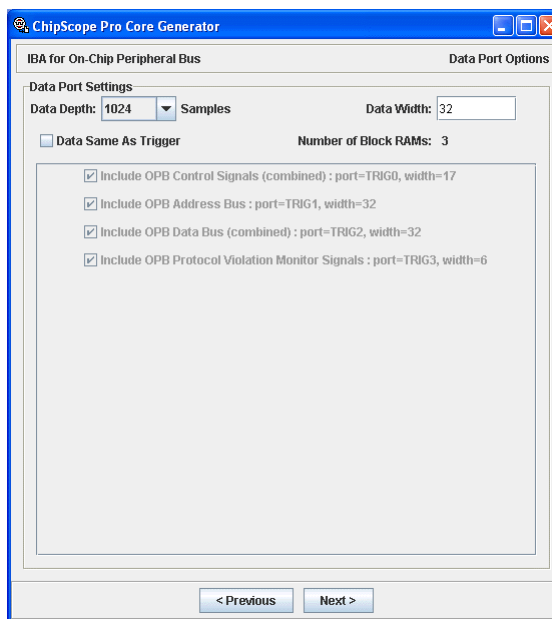

Figure 2-22: IBA/OPB Core Data Port Options
After you have set up the IBA/OPB core trigger port options, click **Next**. This takes you to the fourth screen in the Core Generator that is used to set up the of the IBA/OPB core data port options (Figure 2-22).
- **Data Separate from Trigger (Figure 2-22, page 2-39)**